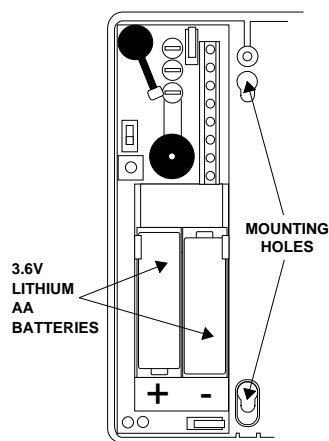

Figure 4. Mounting Hole Locations
- 4) Place the sensor base at the desired location on the wall or ceiling and mark the narrow portion of the mounting holes (see Figure 4).